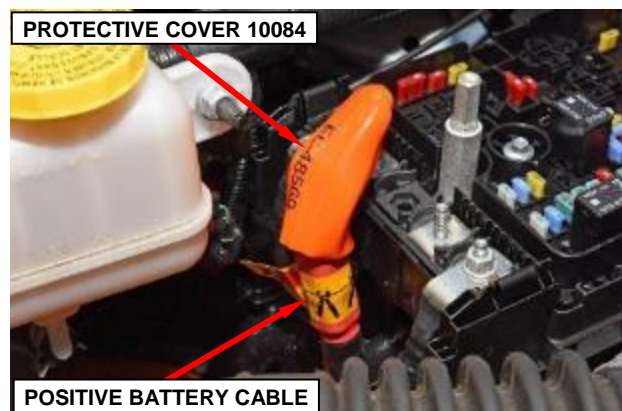

Figure 3 – Cover Cable Terminal
6. Cover the positive battery cable terminal with protective cover 10084 (Figure 3).